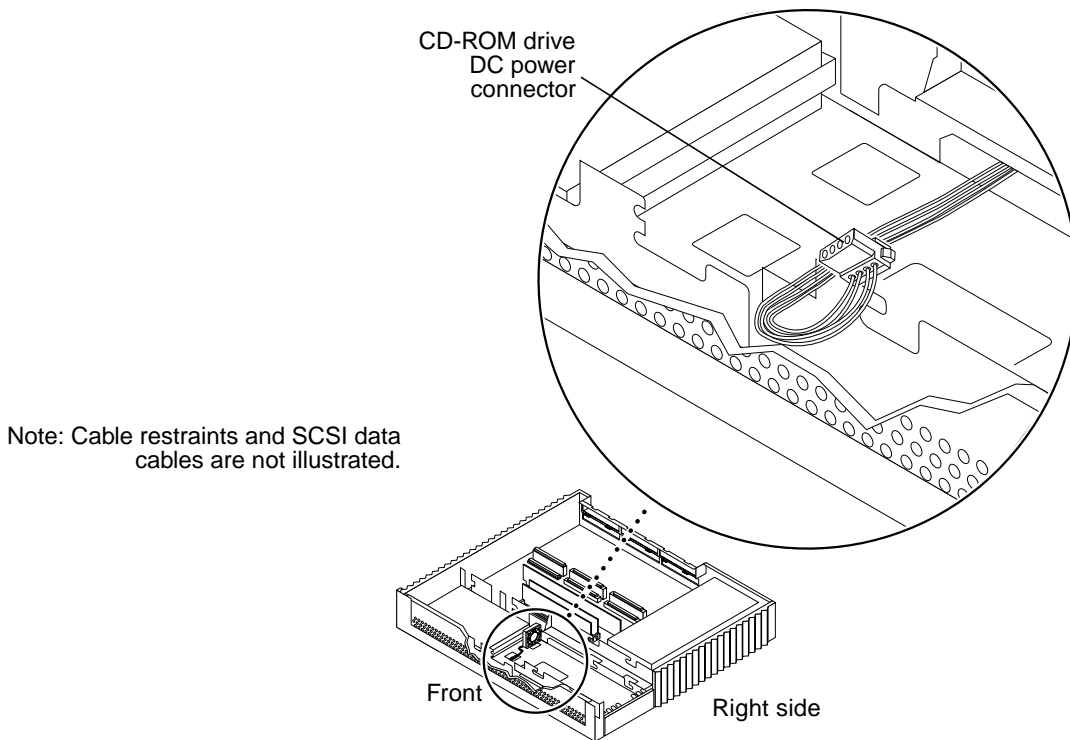

FIGURE 8-22 CD-ROM Drive DC Power Connector Location
1. **Locate the CD-ROM drive DC power connector** (FIGURE 8-22).